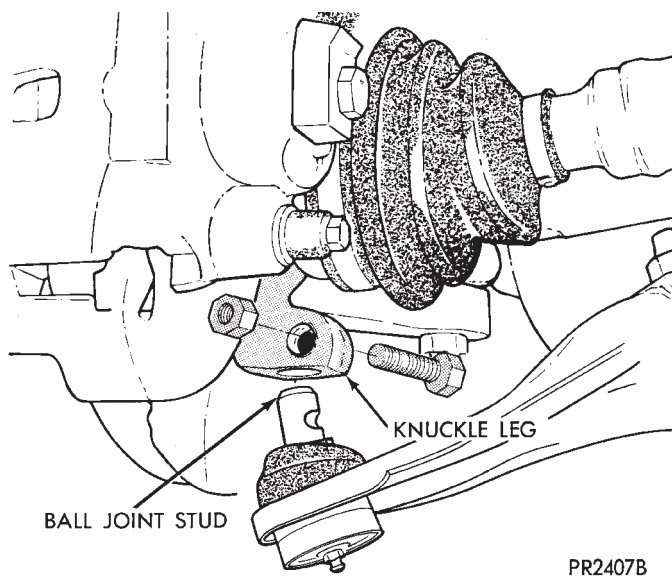

Fig. 15 Install Knuckle Assembly on Ball Joint Stud
(3) Install knuckle assembly on ball joint stud (Fig. 15).